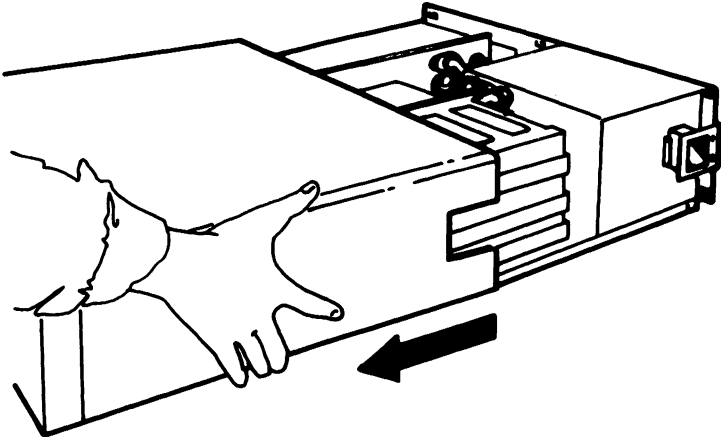

Figure 3-2
4. **With the front of the unit facing you, lift the cover slightly and pull it toward you. When you feel resistance to the forward motion, tilt the front of the cover up, then lift it off. (See Figure 3-2.) Set the cover aside.**
1. Move the system unit so that its front is facing you. Hold the system unit cover so it is facing you, and tilt the front of the cover up. Place the metal tabs at the top rear of the cover behind the front panel of the system unit. (Refer to Figure 3-2.)